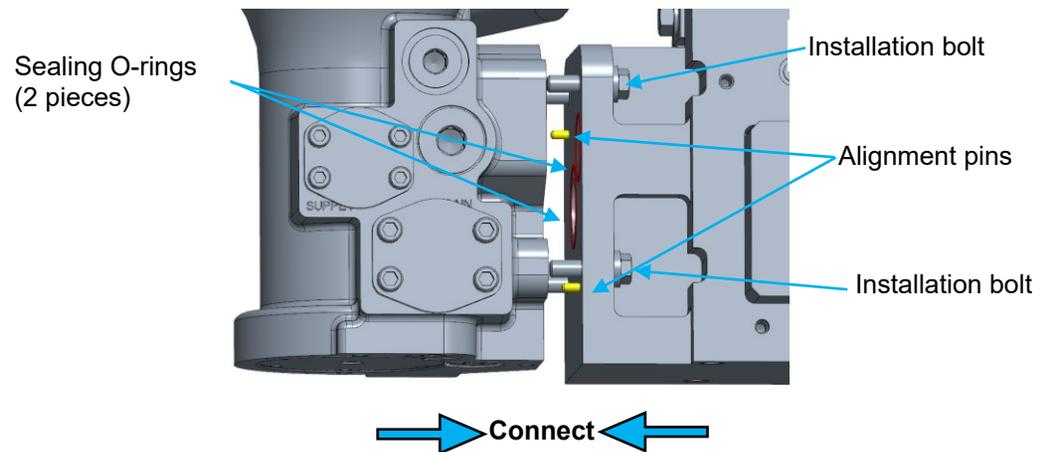

Figure 2-39. VariStroke Attaching to VS-DX Skid Manifold
8. Connect the servo with the VS-DX manifold. (Figure 2-39).